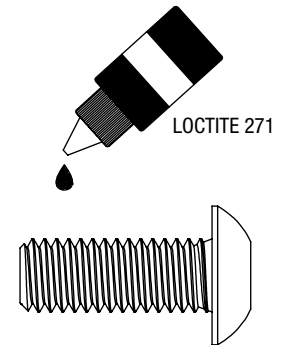

FIG 6
- a.) Apply LOCTITE 271 (provided) to the four screws prior to fastening. **FIG 6.**